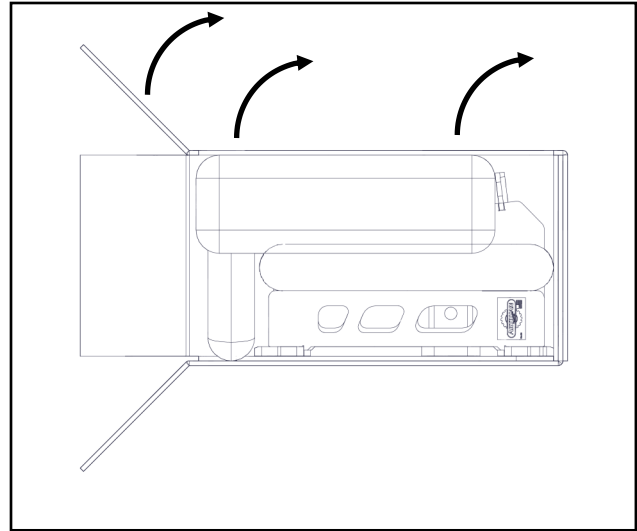

Fig. 1; Remove Fork Fame from Box
1. Orient the box so the fork rails are facing down and the mounting points are facing up. See Fig. 1.